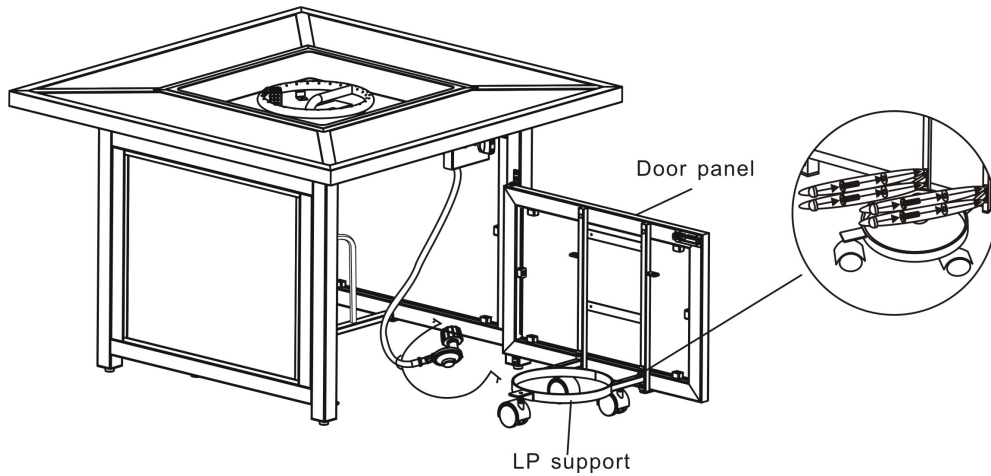

Figure 7
7. Attach the LP support to the door panel by using four 1/4"x15 mm bolts and Ø6.5x1.0 mm washers as shown in Figure 7. **Do not over-tighten.**